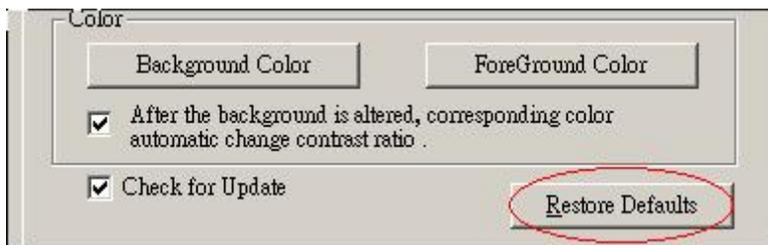

Fig. 6-6 – Restore Color Defaults
- A:** Yes, there is. Click **Tools** from the menu, and select **Customize**; click **Restore Defaults**. However, this restores everything in this window. You must make a further adjustment if the color setting is the only thing you want to restore. See Fig. 6-6.